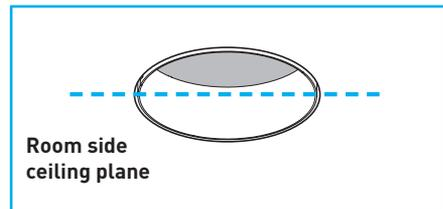

Fig.8
**Important:** Collar must not protrude beyond finished ceiling plane (*Fig.8*).